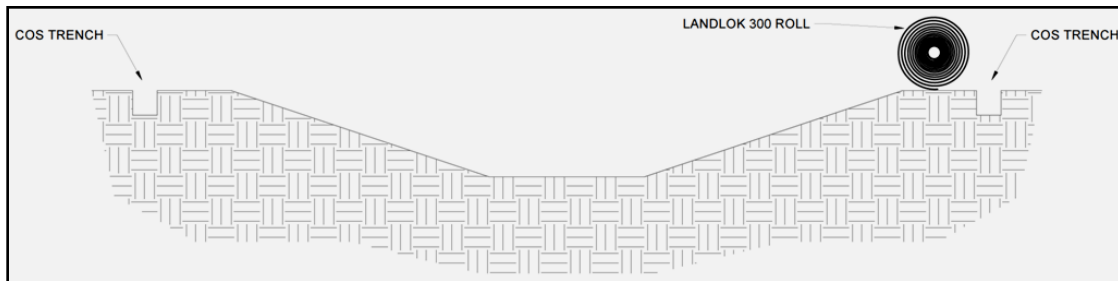
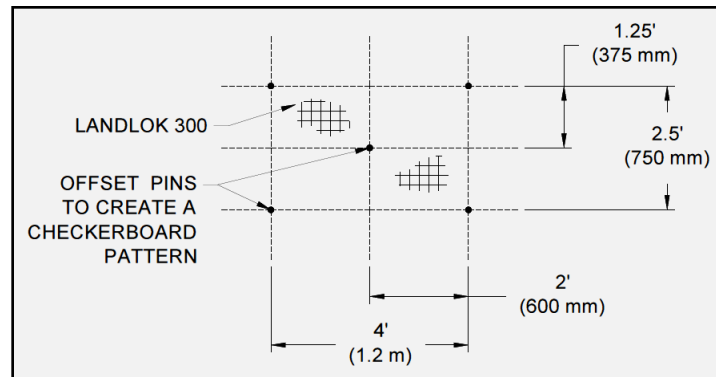
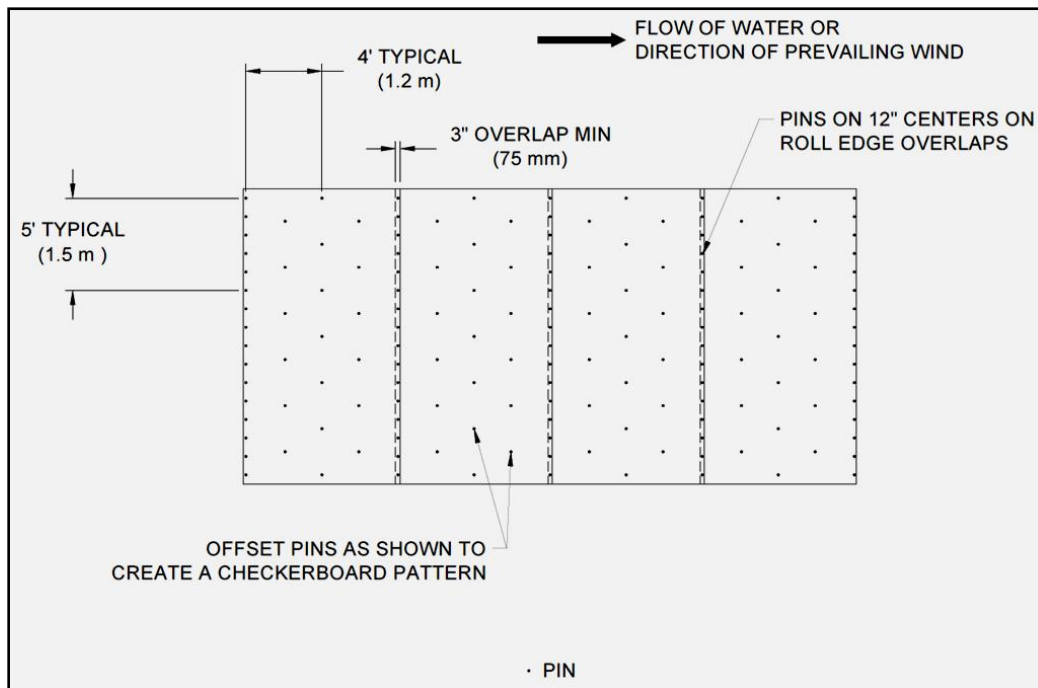

Figure 8: Crest of Slope (COS) Trench Alignment
Figure 11: Example Pin Pattern
Figure 12: Example Edge Overlap Pattern
6. Place the next Landlok 300 panel by laying the Landlok 300 roll so that the roll end points towards the COS trench (Figure 8), with a 3 inch (75 mm) overlap created at adjacent panel edge locations. Ensure that adjacent panel edges maintain a minimum 3 inch (75 mm) overlap during Landlok 300 Laydown. (Figure 12)
7. Secure Landlok 300 panels in place using pins across the channel surface according to the project's engineered design. Pin placement should reflect a staggered checkerboard pattern across the channel surface for best results (Figure 11 and Figure 12).
- Roll edges shall be overlapped a minimum of 3 in (75 mm) with pins placed on 12 in (300 mm) centers (Figure 12).
10. Continue to work down the length of the channel by repeating steps 6 through 9 overlapping each adjacent Landlok 300 panel by 3 inches (75 mm) (Figure 12). The last Landlok 300 panel should terminate on the Terminal Channel (TC) trench with pins on 12 in (300 mm) centers